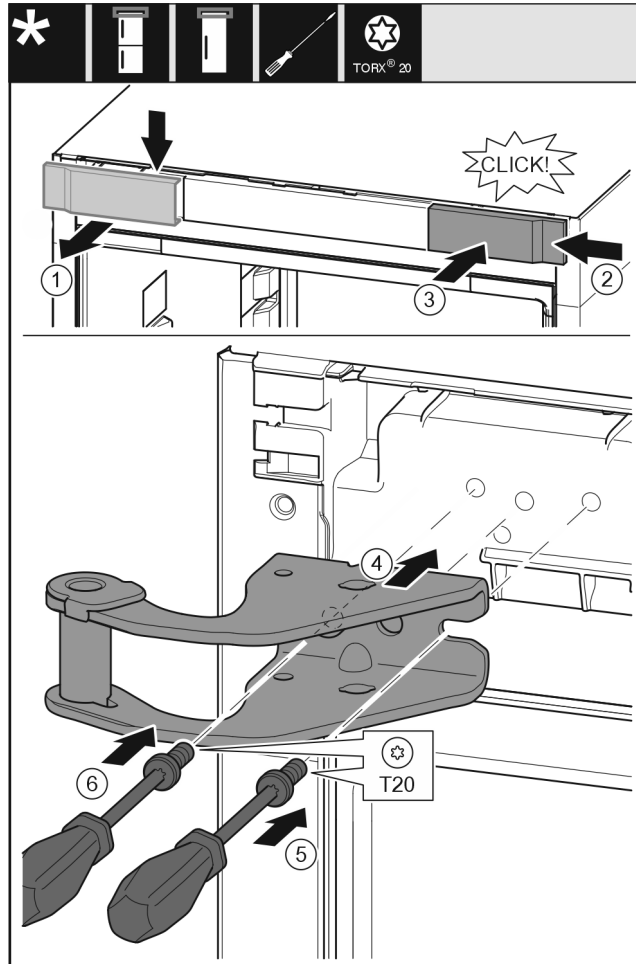

Fig. 9
- ▶ Take off the cover to the front from above. *Fig. 9 (1)*
- ▶ Rotate the cover 180° and clip onto the other side from the right. *Fig. 9 (2)*
- ▶ Latch the cover into place. *Fig. 9 (3)*
- ▶ Position the upper bearing bracket. *Fig. 9 (4)*
- ▶ Insert the screw with a T20 screwdriver and tighten it. *Fig. 9 (5)*
- ▶ Insert the screw with a T20 screwdriver and tighten it. *Fig. 9 (6)*